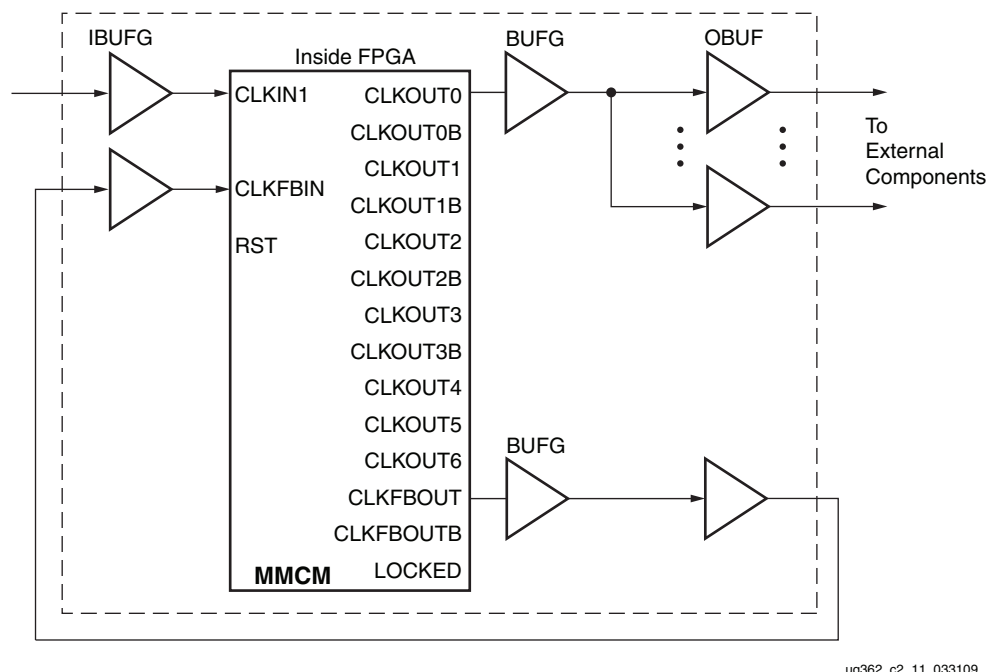

Figure 2-11: Zero Delay Buffer
The MMCM can also be used to generate a zero delay buffer clock. A zero delay buffer can be useful for applications where there is a single clock signal fan out to multiple destinations with a low skew between them. This configuration is shown in the Figure 2-11. Here, the feedback signal drives off chip and the board trace feedback is designed to match the trace to the external components. In this configuration, it is assumed that the clock edges are aligned at the input of the FPGA and the input of the external component. The input clock buffers for CLKIN and CLKFBIN must be the same type. Both must either be a clock capable input (CC) in the same clocking region or both must be a global clock input (GC). There will be a limitation on the maximum delay allowed in the feedback path.